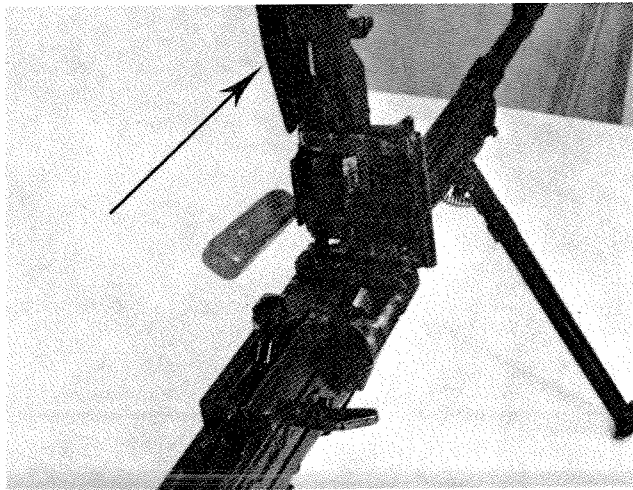

Figure 3-3. Receiver cover fully open.
- d. Raise the receiver cover to the fully open position (fig. 3-3).